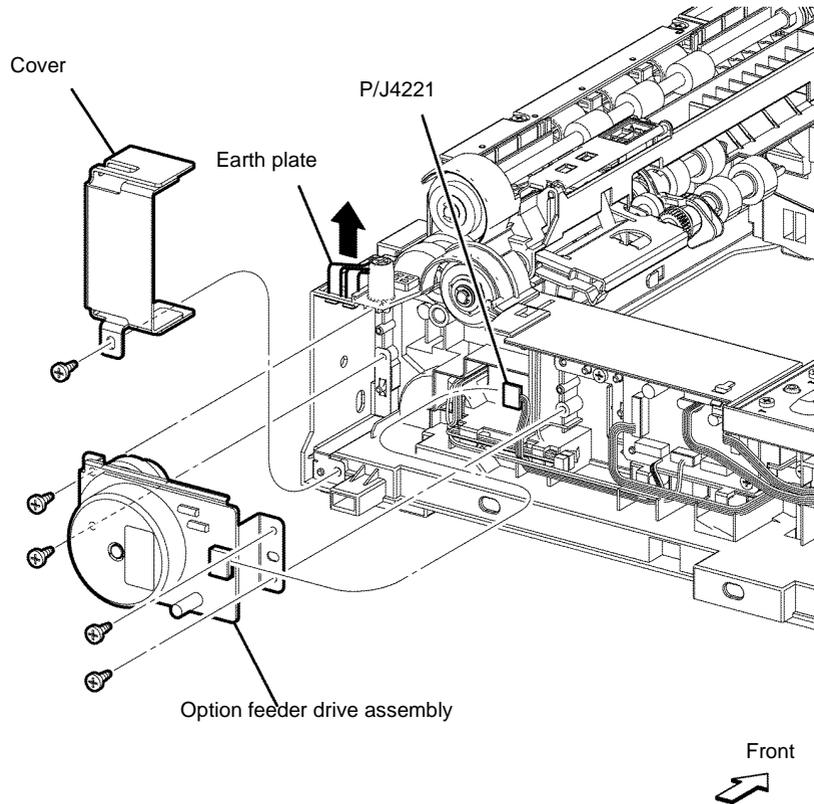

Figure 1 Option feeder drive assembly removal
4. Remove one screw (silver, tapping, 8mm), then remove the cover by lifting the earth plate, Figure 1.
5. Disconnect PJ4221 from the option feeder motor assembly, Figure 1.
6. Remove four screws (silver, tapping, 8mm) that fix the option feeder drive assembly, then remove the option feeder drive assembly, Figure 1.